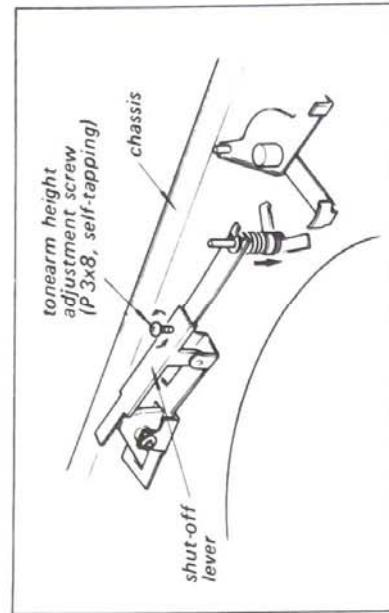

Fig. 3-3. Tonearm height adjustment
- If necessary, adjust the height of the tonearm lifting platform by loosening the tonearm height adjustment screw as shown in Fig. 3-3.